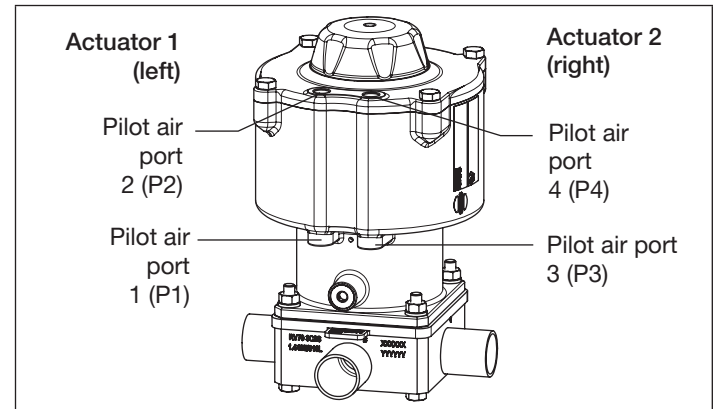

Fig. 23: Actuator assignment
2) Actuator assignment see "Fig. 23: Actuator assignment»